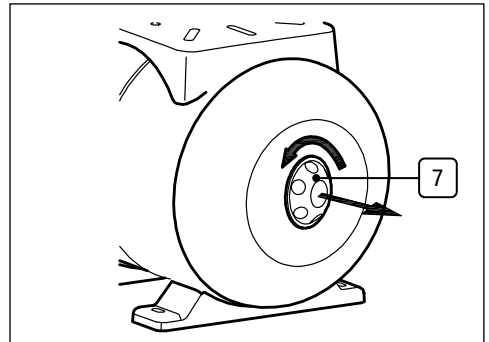
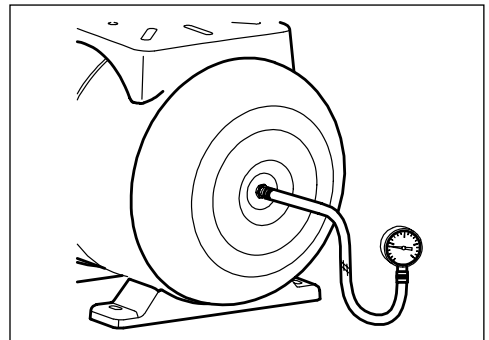
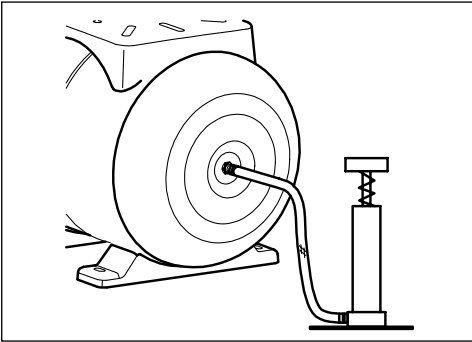

Fig. 3
Fig. 4
Fig. 5
### 6.3 Pressuring the Tank (Fig.3 - Fig.5)
1. Unscrew the cover **7** to access the air valve (Fig.3).
2. Use an air line (Fig.4) or foot pump (Fig.5) to pressurise the tank (**Note:** set between 1.8 - 2bar).